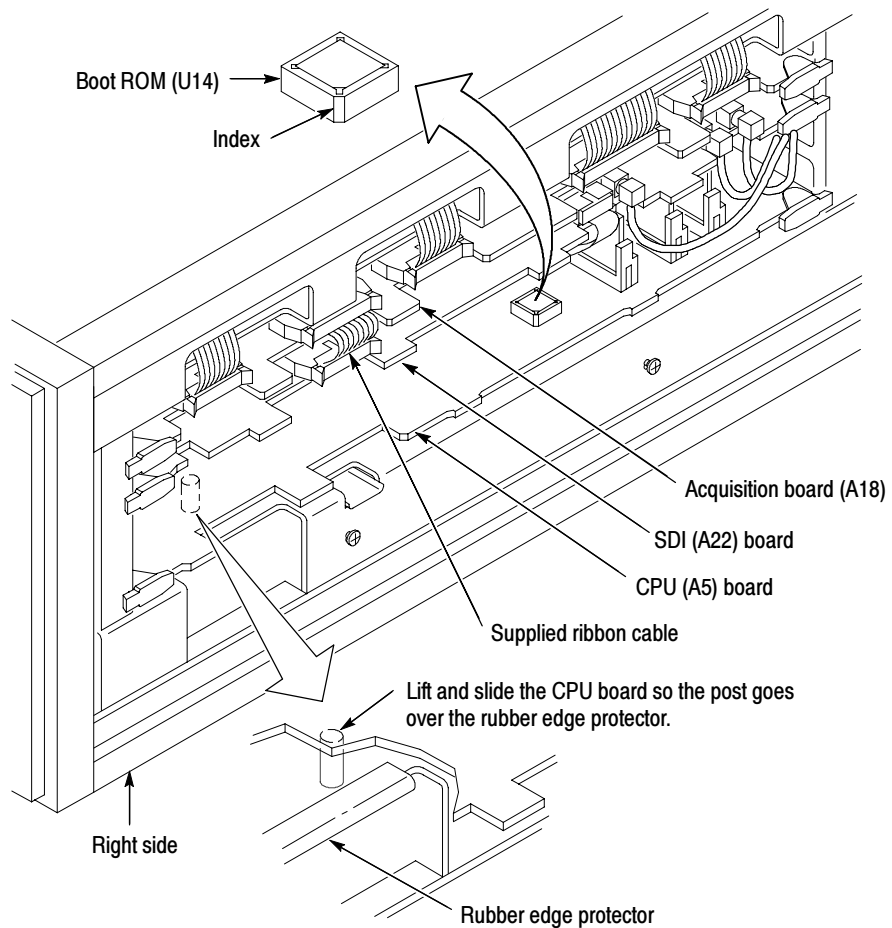

Figure 6: Acquisition board Installation
- a. Press the four existing cables into the cable ejector tabs on the acquisition (A18) board, and then add the supplied fifth ribbon cable between the Acquisition (A18) circuit board and the SDI (A22) circuit board as shown in Figure 6.
3. Remove the existing Boot ROM (U14) using the supplied extraction tool, and replace it with the supplied Boot ROM (U14) on the CPU (A5) circuit board as shown in Figure 6. Note the index on the corner of the Boot ROM (U14).